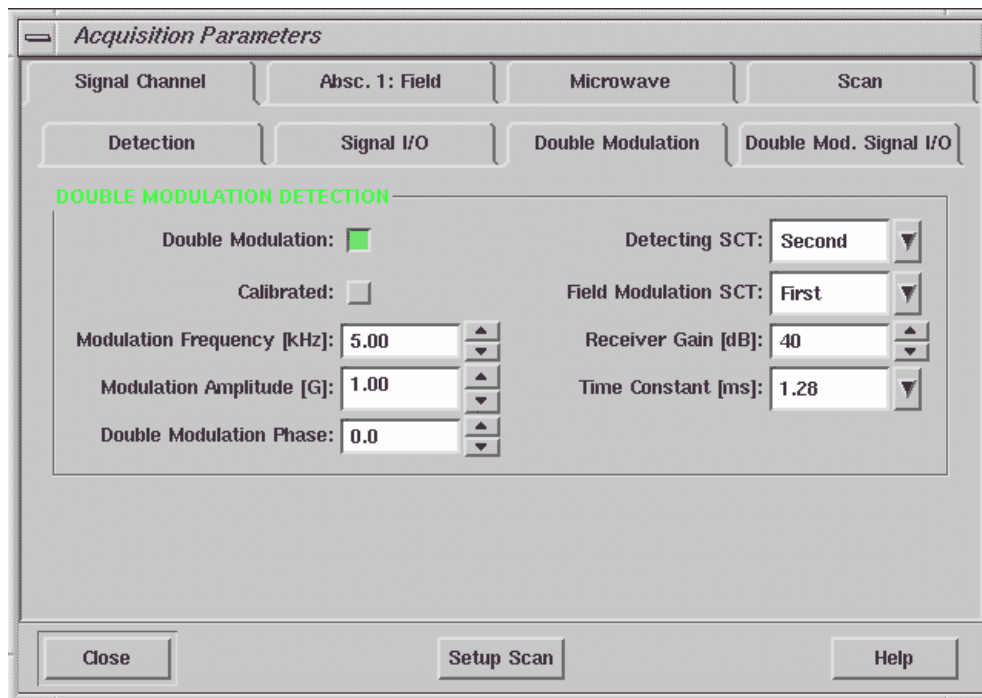

Figure 14-21 Enabling Double Modulation.
5. **Enable Double Modulation.** Open the Parameter dialog box and click the Signal Channel folder. Click the Double Modulation tab. Activate (green) Double Modulation. Select Second in the Detecting SCT drop-down list. Select First in the Field Modulation SCT drop-down list. You may need to reduce Receiver Gain values for both signal channels. Note that the Time Constant in this folder controls the time constant for the low frequency (Detecting SCT) signal channel. (See Figure 14-21.)